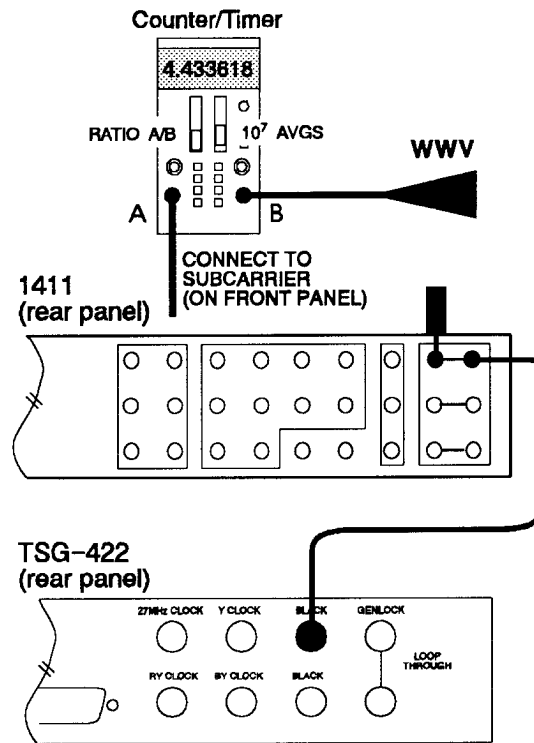

Fig. 5-10. Setup to check the 625/50 burst frequency.
- a. Connect the equipment as shown in Fig. 5-10.